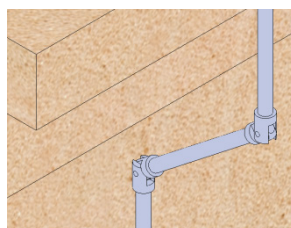

fig. 15
**4 - Cardan type extension:** This type of extension is used when there is a misalignment between the valve and actuator. This problem can be overcome by using a cardan-type joint (fig. 15).